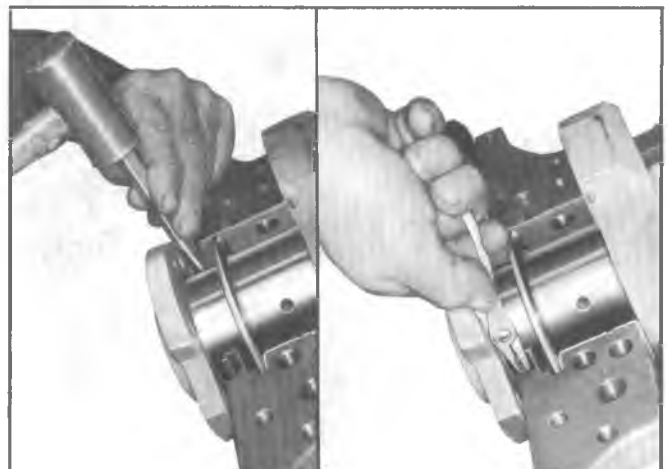

Fig. 7V—Removing Oil Seal (Upper Half)
- until it protrudes far enough to be removed with pliers (fig. 7V).